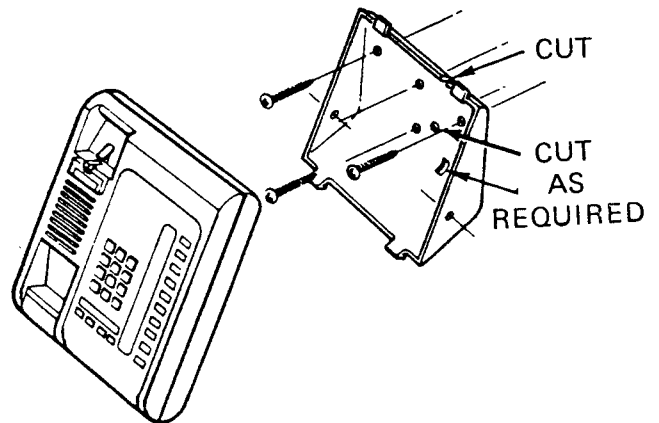

FIGURE 34—EKT WIRE ACCESS
09.15 Refer to Figure 34, choose which of the knockouts are appropriate for the tail cord route, and then cut them.